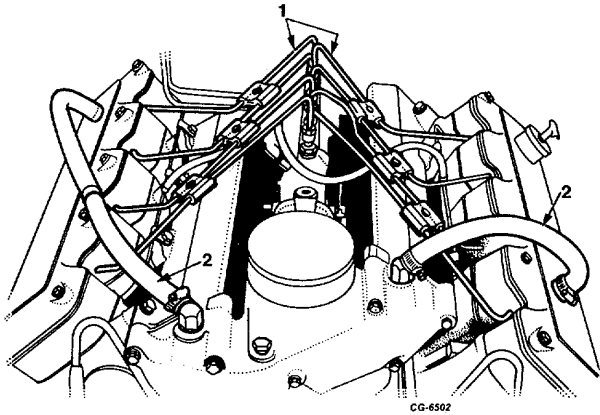

Fig. 37 Removing Injection Lines and Ventilator Hoses
31. Disconnect fuel injection lines from injection pump and injection nozzles, remove lines (Figure 37).
32. Disconnect left and right bank ventilator hose from air intake manifold crossover (Figure 37).
33. Disconnect ventilator hose from left valve cover (Figure 37).